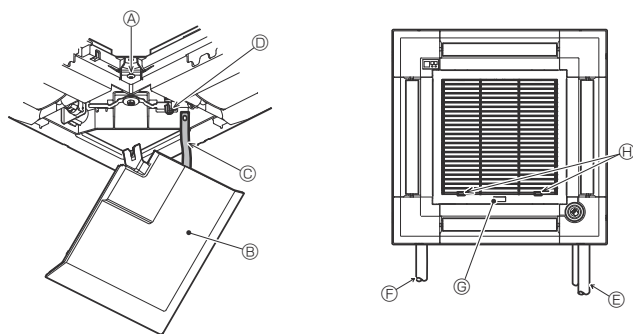

Fig. 9-12
9.5. Montere innsugningsgitteret (Fig. 9-12)